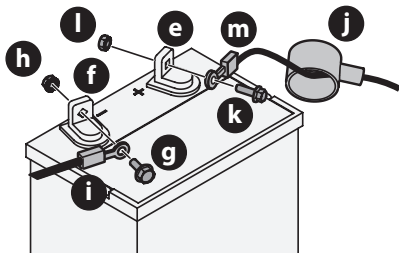

Fig. 23
NOTE: The positive battery terminal is marked POS. (+) (e). The negative battery terminal is marked NEG. (-) (f) (Fig. 23).
- Remove the hex cap screw (g) and sems nut (h) securing the black negative battery lead (i) to the negative battery post (marked NEG) (f). Move the cable away from the negative battery post (Fig. 23).
- Remove the red boot (j), hex cap screw (k) and sems nut (l) securing the red positive battery lead (m) to the positive battery post (marked POS) (e) (Fig. 23).